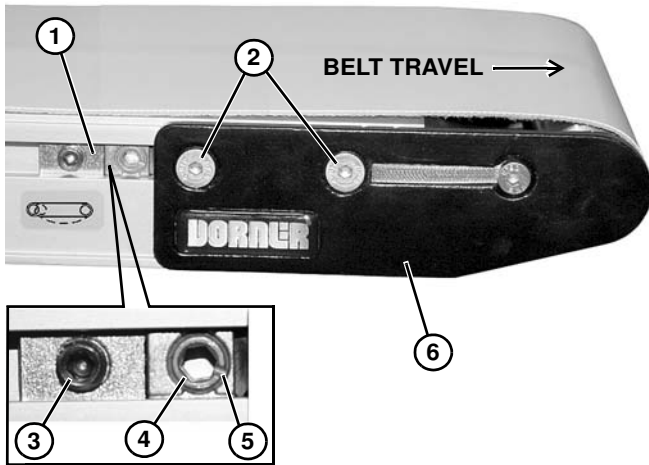

Figure 88
Non V-guided belt conveyors are equipped with belt tracking cam assemblies (**Figure 88, item 1**) for belt tracking adjustment.
1. Ensure head plate fastening screws (**Figure 88, item 2**) on both sides of conveyor are tightened.
2. On both sides of conveyor, loosen cam fastening screw (**Figure 88, item 3**). Adjust cams (**Figure 88, item 4**) until indicator slots (**Figure 88, item 5**) are horizontal and facing end of conveyor. Then slide cam assemblies against head plates (**Figure 88, item 6**) and re-tighten cam fastening screws (**Figure 88, item 3**) to 60 in-lb (7 Nm).
3. On the side toward which the belt is tracking, loosen head plate fastening screws (**Figure 88, item 2**).
4. With the conveyor running, use a 5 mm hex-key wrench to rotate the tracking cam (**Figure 88, item 4**) in small increments until the belt tracks in the center of the conveyor. Then while holding the cam in position, re-tighten the head plate fastening screws (**Figure 88, item 2**) with a 4 mm hex-key wrench to 60 in-lb (7 Nm).